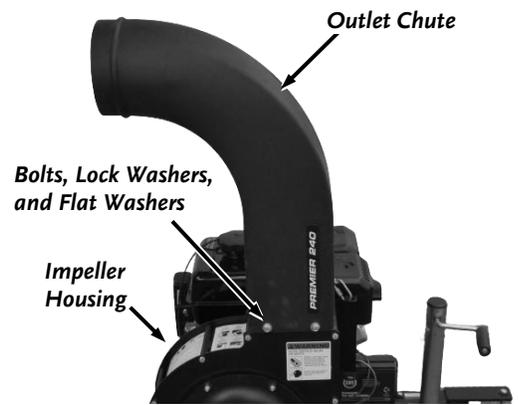

Figure 16
2. Place the Outlet Chute on top of the Impeller Housing (make sure to orient as shown) and secure with four Bolts, Lock Washers, and Flat Washers using a 1/2" Wrench or socket (Figure 16).